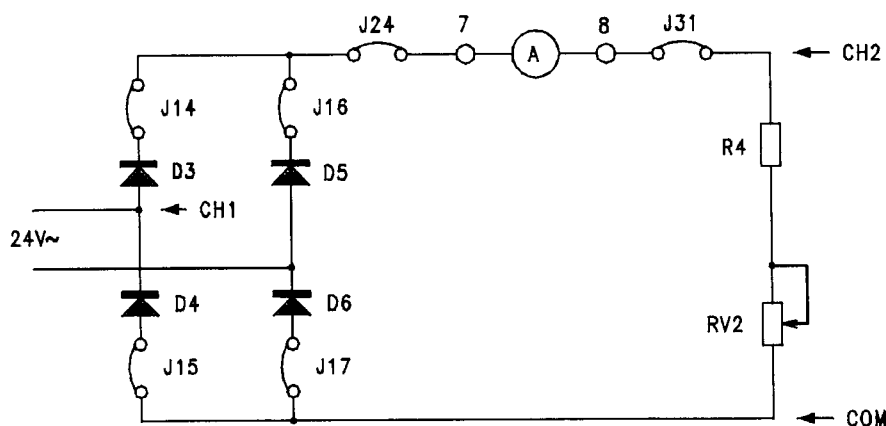

fig. B04.5
- Connect jumpers J14, J16, J24, J31, J17, J15 and the ammeter to produce the circuit of figure B04.5
- Connect the jumpers to produce the circuit of figure B04.5 again